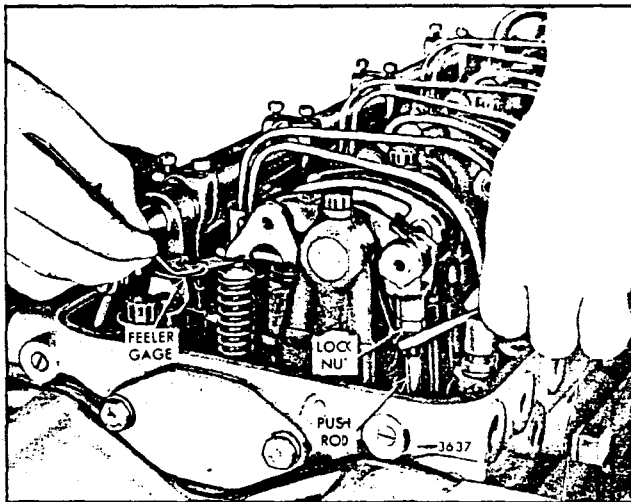

Fig. 2 - Adjusting Valve Clearance (Four-Valve Cylinder Head)
5. Place a .026" feeler gage (J 9708-01) between the end of one exhaust valve stem and the rocker arm bridge (Fig. 2). Adjust the push rod to obtain a smooth "pull" on the feeler gage.